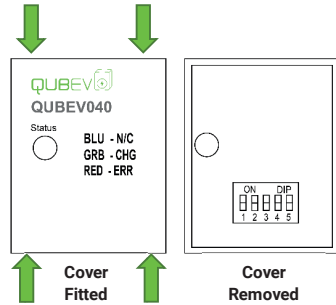

Figure 5 Charge Control Unit
1. Carefully remove the cover of the Charge Control Unit and locate the Amp Setting 'DIP' switches. Refer to Figure 5 Charge Control Unit.